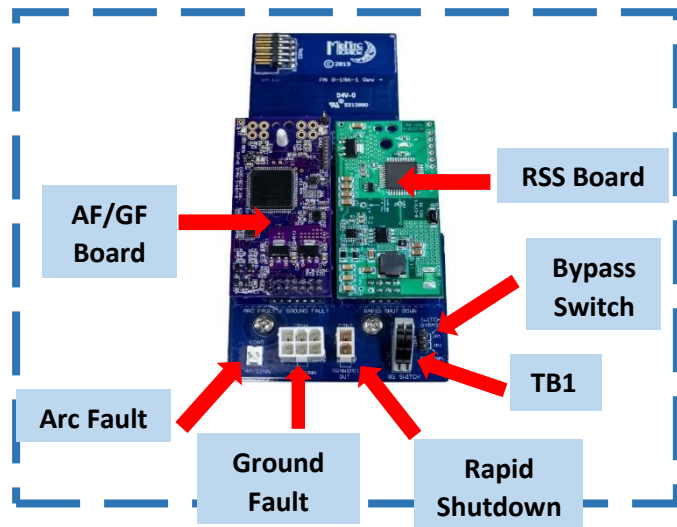

Figure 5
**Figure 5** shows the Options Board, sub-boards, and connection receptacles.
**Bypass Switch & TB1 (Figure 5)**